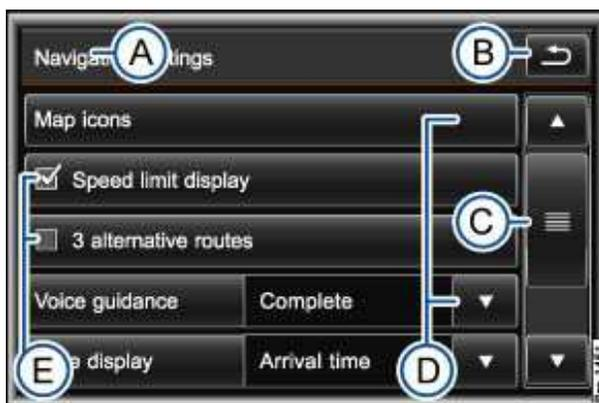

Fig. 125 Navigation settings.
The selected setting is displayed in an “option window” behind some function keys. The option window is indicated by an arrow ▼ ⇒ fig. 125 \(D\).
If there are more items available in a list view than can be displayed on the screen, a scroll bar is displayed on the right of the screen ⇒ fig. 125.
- *Browsing lists page-by-page:* briefly press the screen above or below the scroll marker ⇒ fig. 125 (C). **OR:** Briefly press the ▲ or ▼ function keys ⇒ fig. 126.